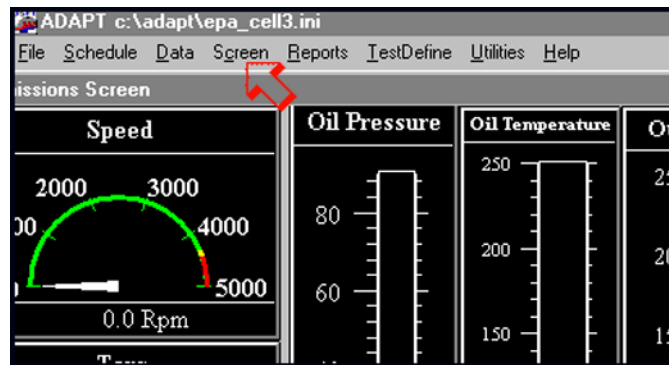

Figure 16
- 120 Click on "Screen" from the menu bar. See the arrow in Figure 16.